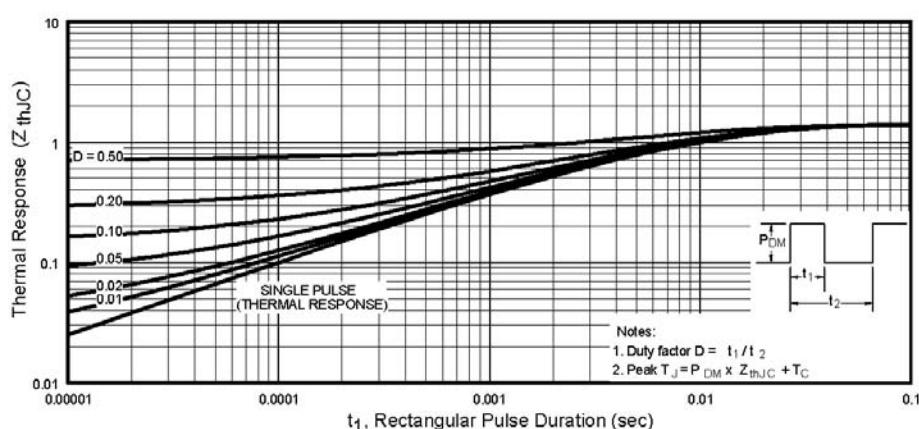

Fig 11. Maximum Effective Transient Thermal Impedance, Junction-to-Case
① Repetitive rating; pulse width limited by max. junction temperature. (See fig. 11)
④ Pulse width $\leq 300\mu\text{s}$; duty cycle $\leq 2\%$.
② $V_{DD} = -25V$, Starting $T_J = 25^\circ\text{C}$, $L = 2.1\text{mH}$